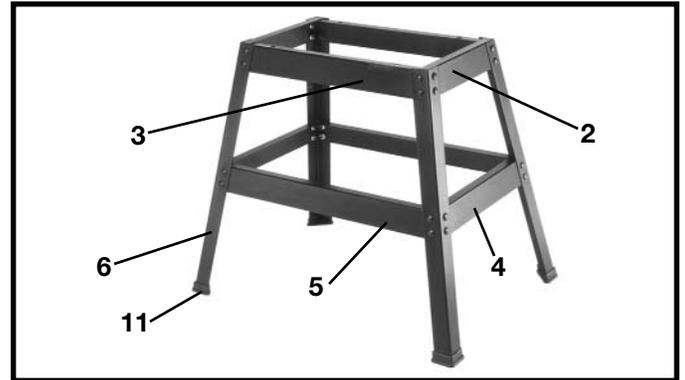

Fig. 3
1. Assemble stand as shown in Fig. 3, using parts shown in Fig. 2. The braces, legs and feet are numbered the same in both illustrations. Insert the M8x1.25x16mm carriage head screws through legs and braces then place the 3/8" flat washers on the screws and secure with the M8x1.25 hex nuts. Only tighten nuts finger-tight at this time. **NOTE:** The top lips of the side braces (2) Fig. 3, must fit on top of the front and rear braces (3). The top lips of the side braces (4) Fig. 3, must fit on top of the front and rear braces (5).
2. Attach the four plastic feet (11) Fig. 3, to the bottom of each leg (6).